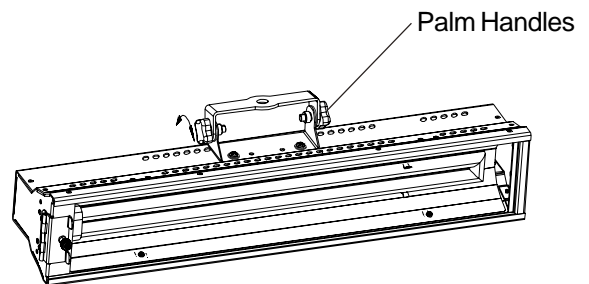

Figure 3
1. While firmly grasping fixture, loosen palm handles (Fig.3).